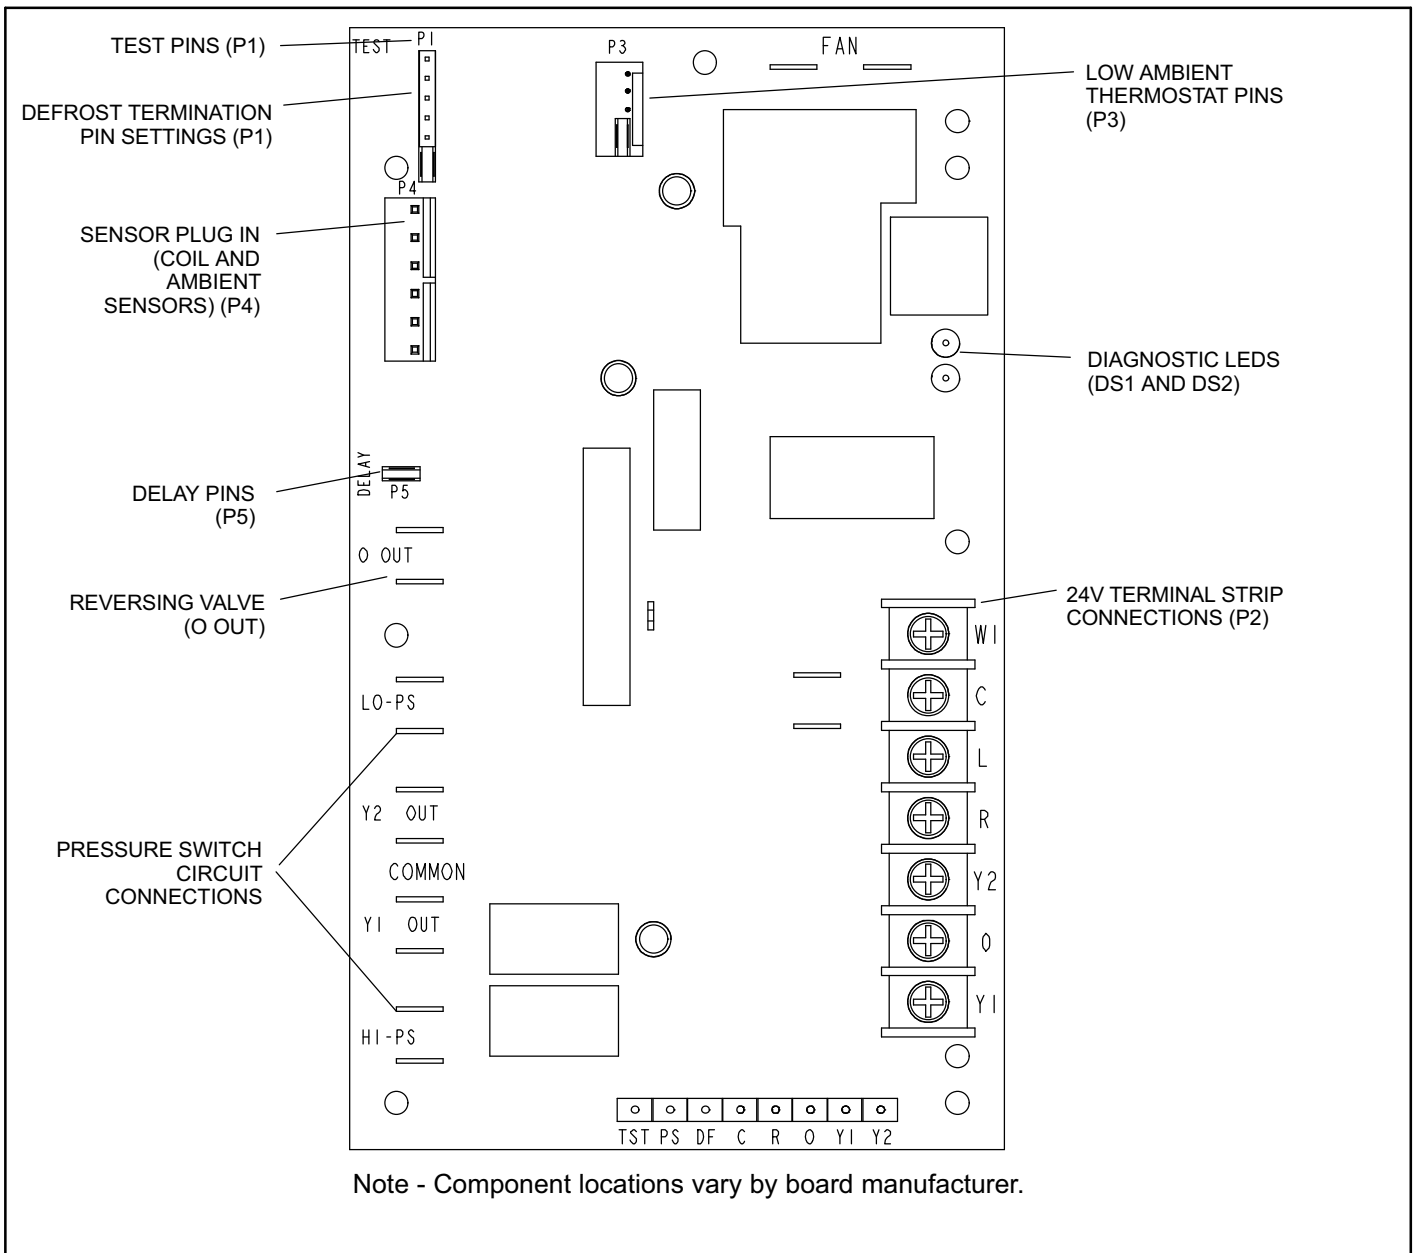

Figure 25. Demand Defrost Control (A108)
The demand defrost control measures differential temperatures to detect when the system is performing poorly because of ice build-up on the outdoor coil. The controller *self-calibrates* when the defrost system starts and after each system defrost cycle. The demand defrost control's components are shown in figure 25.
- Demand defrost control connections, jumpers and LED locations are shown in figure 25.